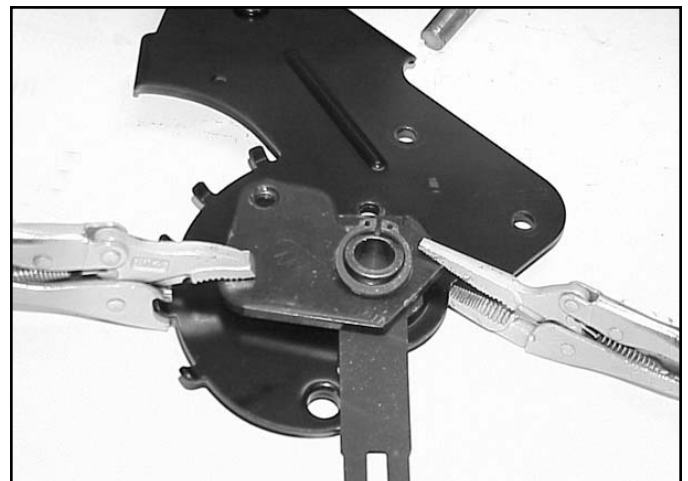

Fig 080
5. Clamp the pivot assembly with 2 pairs of locking pliers or other clamps and remove the snap ring (Fig. 080).